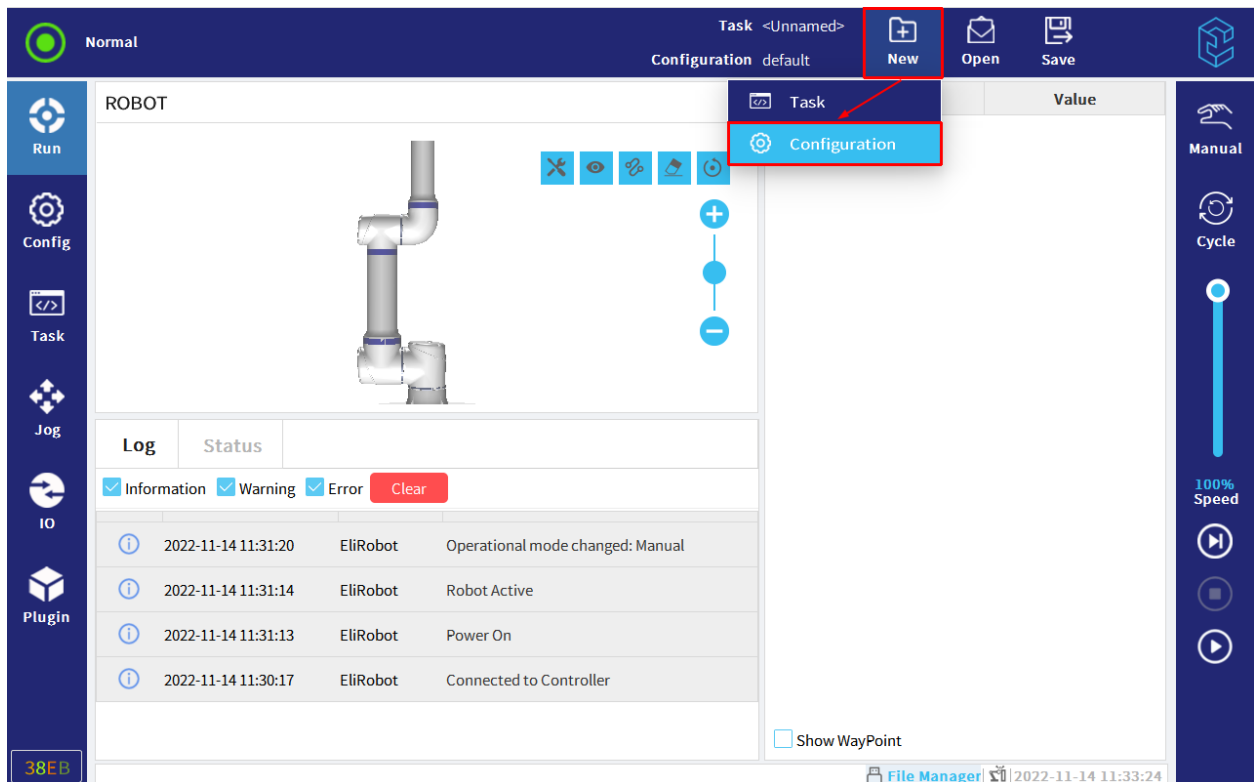

Figure 8-6 New profile
1. In task and configuration manager, click "New" and then select "Configuration", as shown in Figure 8-6.